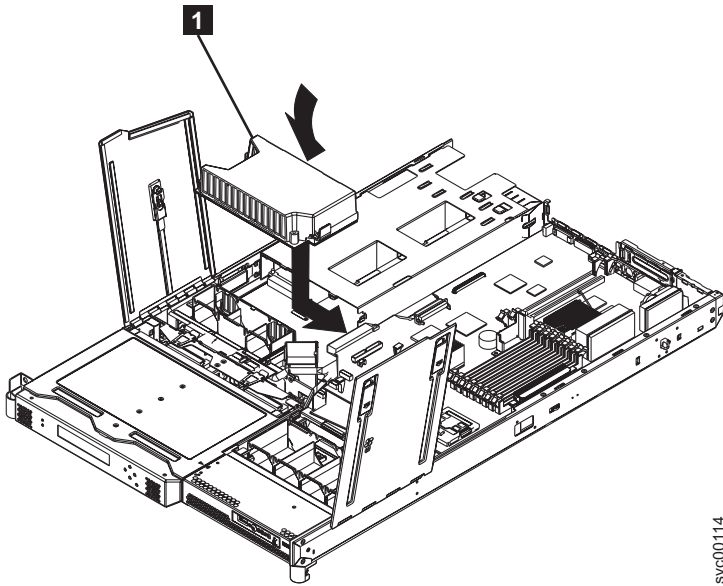

Figure 169. Replacing the SAN Volume Controller 2145-8F4 or SAN Volume Controller 2145-8F2 power backplane
1. Lower the power backplane into position on the SAN Volume Controller 2145-8F4 or SAN Volume Controller 2145-8F2 and slide it to the right to connect it to the system board. See Figure 169 on page 158.